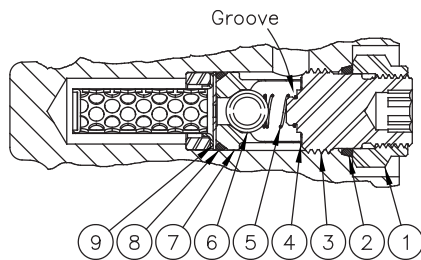

FIGURE 3
1. **Directional spring (5) is attached to screw assembly (3) by means of a small diameter end of spring (5) being snapped into a groove on the nose end screw assembly (3). See Figure 3.** Be prepared for steel ball (6) to drop out of cavity during this procedure. Remove nut (1) from screw assembly (3). Remove screw assembly (3)/spring (5) from accumulator charging valve. Remove o-ring (2) from screw assembly (3) from nut (1) side of screw assembly. Remove shim (4), steel ball (6), seat (7), o-ring (8) and orifice (9) from accumulator charging valve. A small pick tool may be useful during this procedure. **NOTE: There is a spacer and filter in the end of this cavity which do not need to be removed.**
2. **If necessary, reattach the small diameter of spring (6) into the groove on the nose end of screw assembly (3) using a slight twisting motion. See Figure 3.** Install new o-ring (2) on screw assembly (3) from nut (1) side of screw assembly. Install new orifice (9), new o-ring (8), seat (7) and steel ball (6) in accumulator charging valve. Apply grease to steel ball (6) to hold it in the cavity. Fully lubricate shim (4) with clean system fluid and adhere shim (4) to the end of screw assembly (3). Install screw assembly (3)/spring (5) in a accumulator charging valve. Torque screw assembly (3) 24.4-29.8 N·m (18-22 lb·ft). Then install nut (1) on screw assembly (3) and torque nut 43.4-51.5 N·m (32-38 lb·ft).